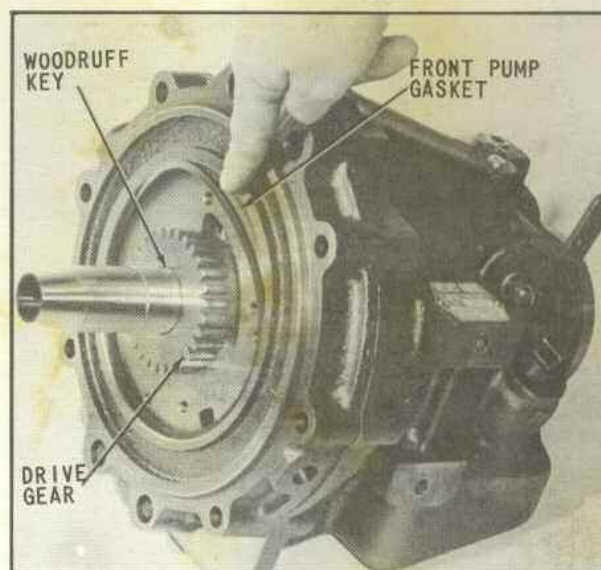

Fig. 66 Installing Pump Drive Gear Key and Front Pump Gasket
62. Lubricate and install front pump gasket, (Fig. 66).
63. Install Woodruff key, (Fig. 66).
64. Install the pump drive gear on the input shaft, with one of the Woodruff key slots in drive gear mating with the Woodruff key on the input shaft, (Fig. 66).
65. Cover the splined portion of the input drive gear with a suitable tool to protect the rubber lip on the seal during the assembly of the remaining front pump parts, (Fig. 66).